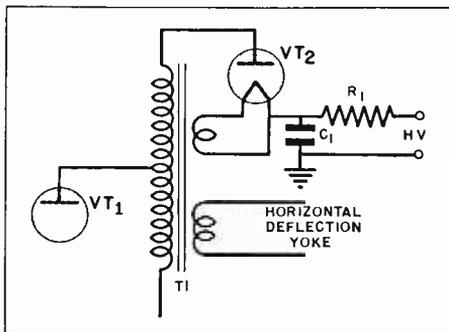

Fig. 6. Schematic Diagram of a Fly-back High-voltage Power Supply.
*Television-Receiver High Voltage Power Supply.* Almost all modern television receivers use some form of flyback high voltage power supply to furnish the picture tube anode voltage. In Fig. 6, we see a basic flyback power supply circuit commonly used in modern receivers. VT1 is the horizontal output tube, the output or plate circuit of which is connected to the primary of T1. T1 acts as a combination horizontal output transformer and high voltage transformer. The two secondaries of T1 of the winding of the high voltage rectifier filament supply and the winding that supplies a sawtooth current to the horizontal deflection yoke. (Incidentally, it should always be clearly understood that the source of the sawtooth wave form is the output circuit of the horizontal oscillator operating at